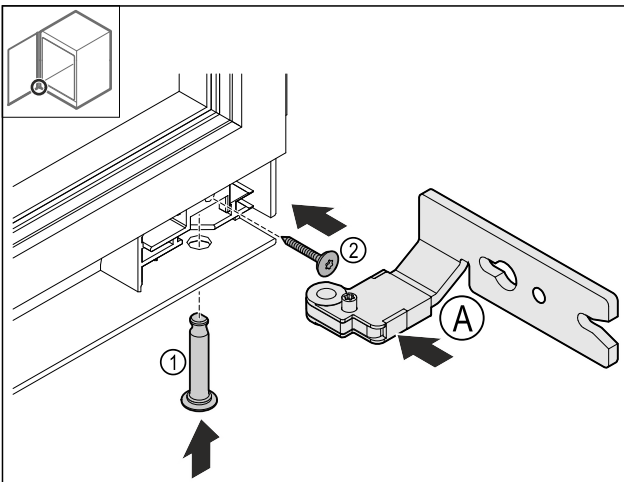

Fig. 28
- Insert the bottom hinge Fig. 28 (A).
- Insert the pin Fig. 28 (1) and hold it.
- Tighten the screw Fig. 28 (2).